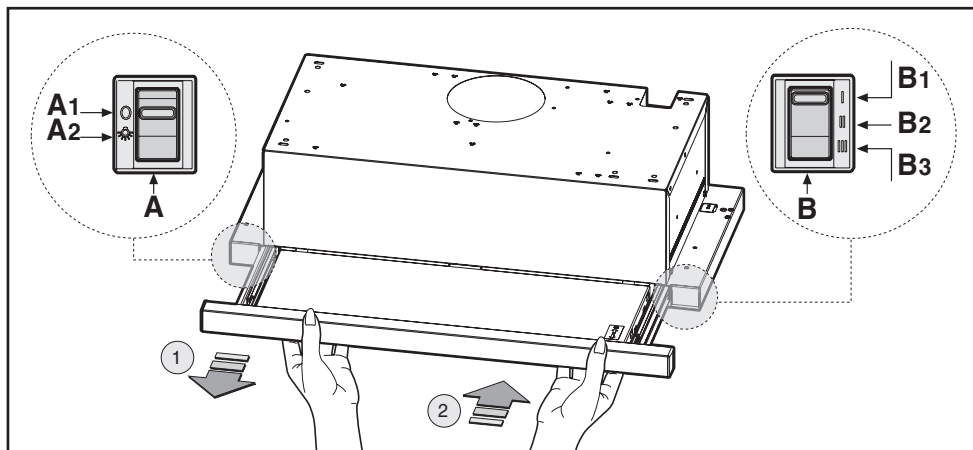

Fig.9
• **Commands (Fig.9) slider** the key symbols are explained below: